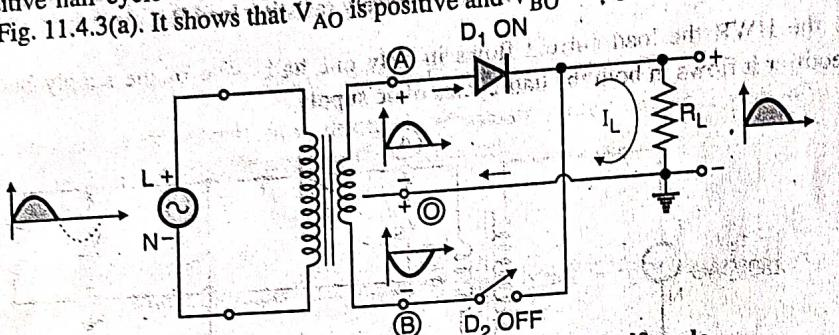

Fig. 11.4.3(a) : Equivalent circuit for the positive half cycle
- In the positive half cycle of ac supply, the polarities of the secondary induced voltages are as shown in Fig. 11.4.3(a). It shows that V_{AO} is positive and V_{BO} is negative.